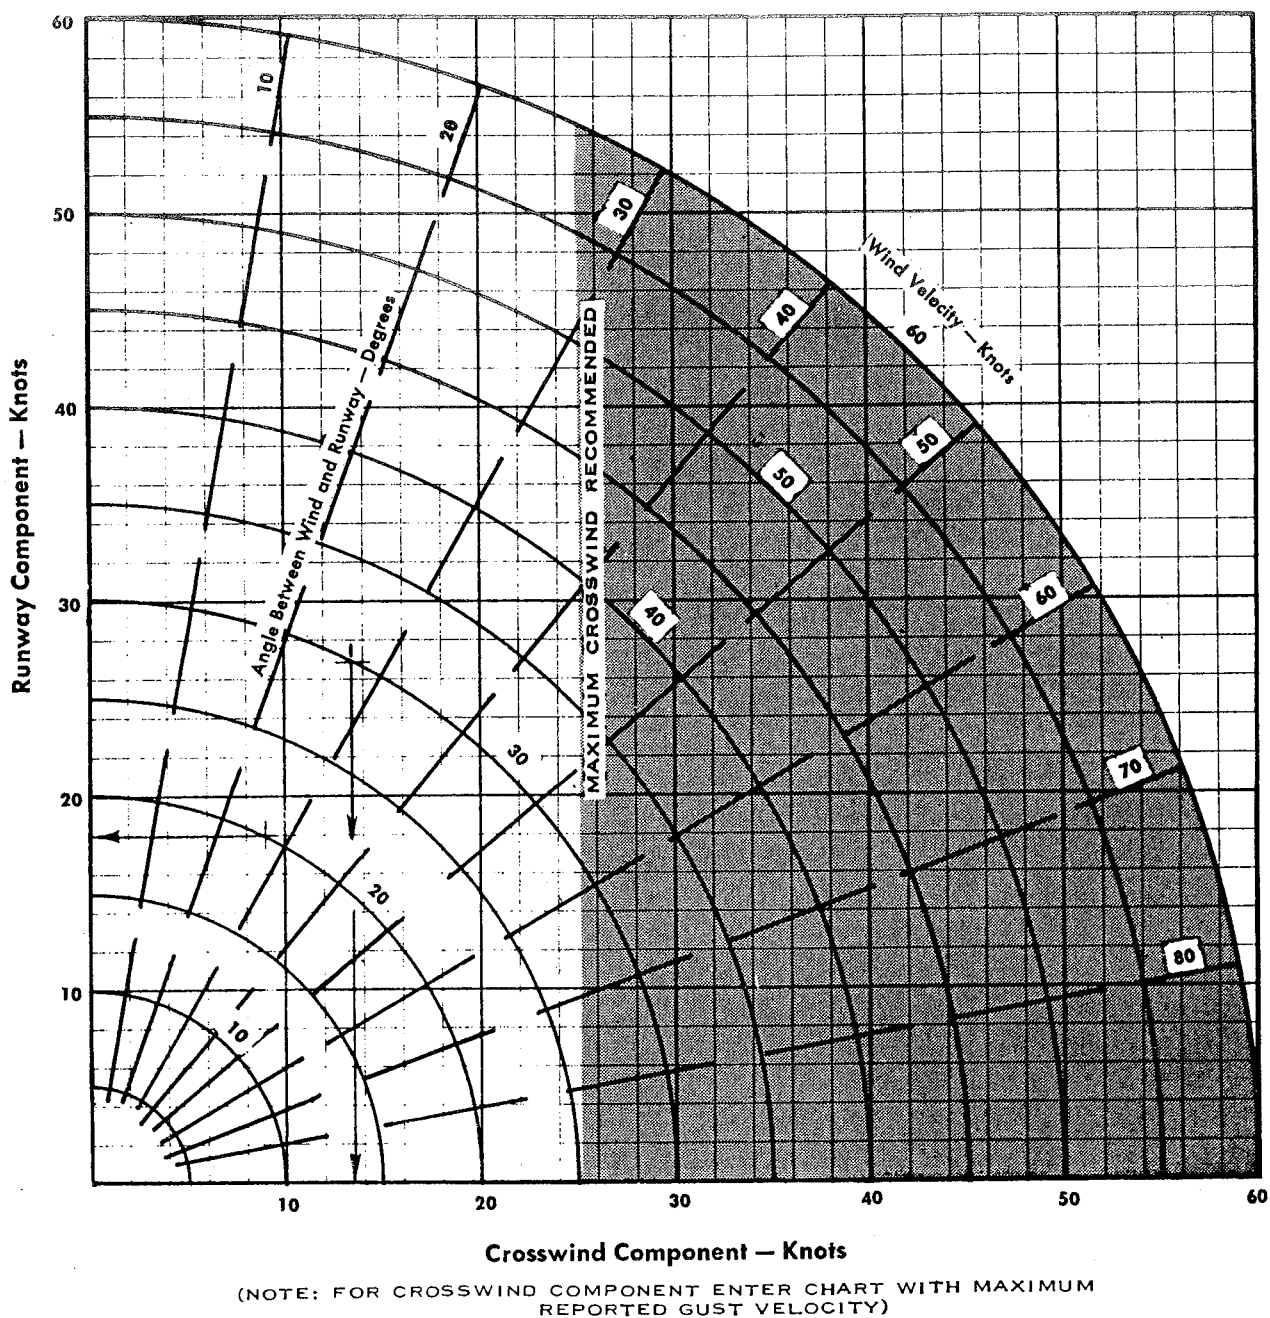

Figure A2-2
Normal acceleration speeds at the go, no-go point and the acceleration checkpoint shall be corrected for wind. The correction is made by adding the runway headwind component directly to the no-wind speeds. Figure A2-2 present a chart for computing the runway wind component. This chart may be used to obtain crosswind component speeds. Acceleration check speed and go, no-go speed should always be corrected for runway wind component. Takeoff planning procedure may ignore the effect of headwind on ground run distance, thus considering the benefits of headwind as an added safety margin. If this is done a check should be made to be certain the crosswind conditions are not excessive.
- a. From Figure A2-2, at a reported wind velocity of 20 knots and an angle between wind and runway of 25° (60° — 35°), the runway component is 18 knots headwind.
- a. From Figure A2-2, at a reported wind velocity of 20 knots and an angle between wind and runway of 25° ($60^\circ - 35^\circ$), the runway component of the wind is 18 knots headwind.